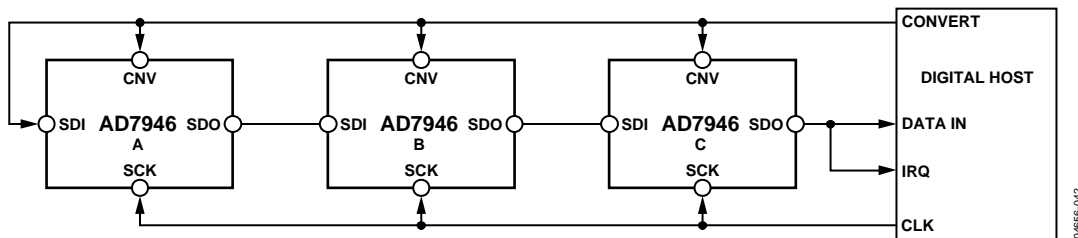
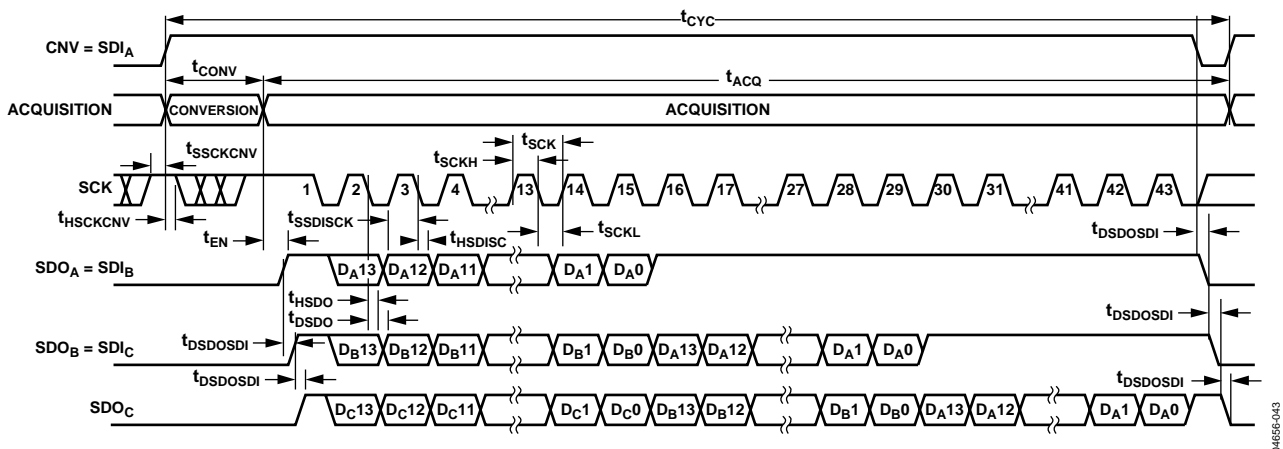

Figure 43. Chain Mode with BUSY Indicator Connection Diagram
Figure 44. Chain Mode with BUSY Indicator Serial Interface Timing
- In chain mode, if SCK is high during the CNV rising edge (Figure 44).
A connection diagram example using three AD7946s is shown in Figure 43, and the corresponding timing is given in Figure 44.
When SDI and CNV are low, SDO is driven low. With SCK high, a rising edge on CNV initiates a conversion, selects the chain mode, and enables the BUSY indicator feature. In this mode, CNV is held high during the conversion phase and the subsequent data readback. When all ADCs in the chain have completed their conversions, the near-end ADC (ADC C in Figure 43) SDO is driven high. This transition on SDO can be used as a BUSY indicator to trigger the data readback controlled by the digital host. The AD7946 then enters the acquisition phase and powers down. The data bits stored in the internal shift register are then clocked out, MSB first, by subsequent SCK falling edges. For each ADC, SDI feeds the input of the internal shift register and is clocked by the SCK falling edge. Each ADC in the chain outputs its data MSB first, and  $14 \times N + 1$  clocks are required to readback the N ADCs. Although the rising edge can be used to capture the data, a digital host using the SCK falling edge allows a faster reading rate and consequently more AD7946s in the chain, provided the digital host has an acceptable hold time. For instance, with a 3 ns digital host setup time and 3 V interface, up to four AD7946s running at a conversion rate of 360 kSPS can be daisy-chained to a single 3-wire port.